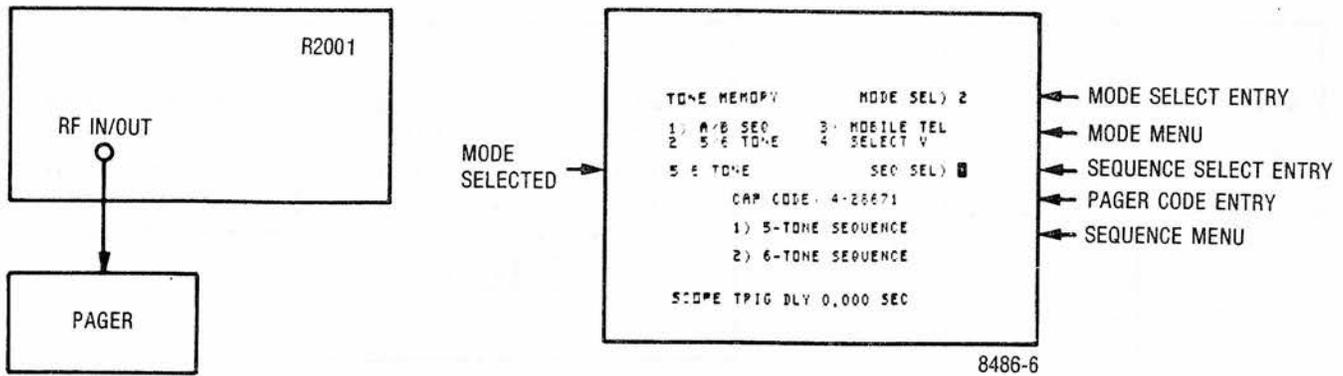

Figure 4-10. Test Setup for 5/6 Tone Pager with CRT Display
- c. Test 5/6 Tone Pager decode and alert function (Figure 4-10).
8. Connect the pager as shown in Figure 4-10 and set the MODULATION switch as desired to activate the pager under test.